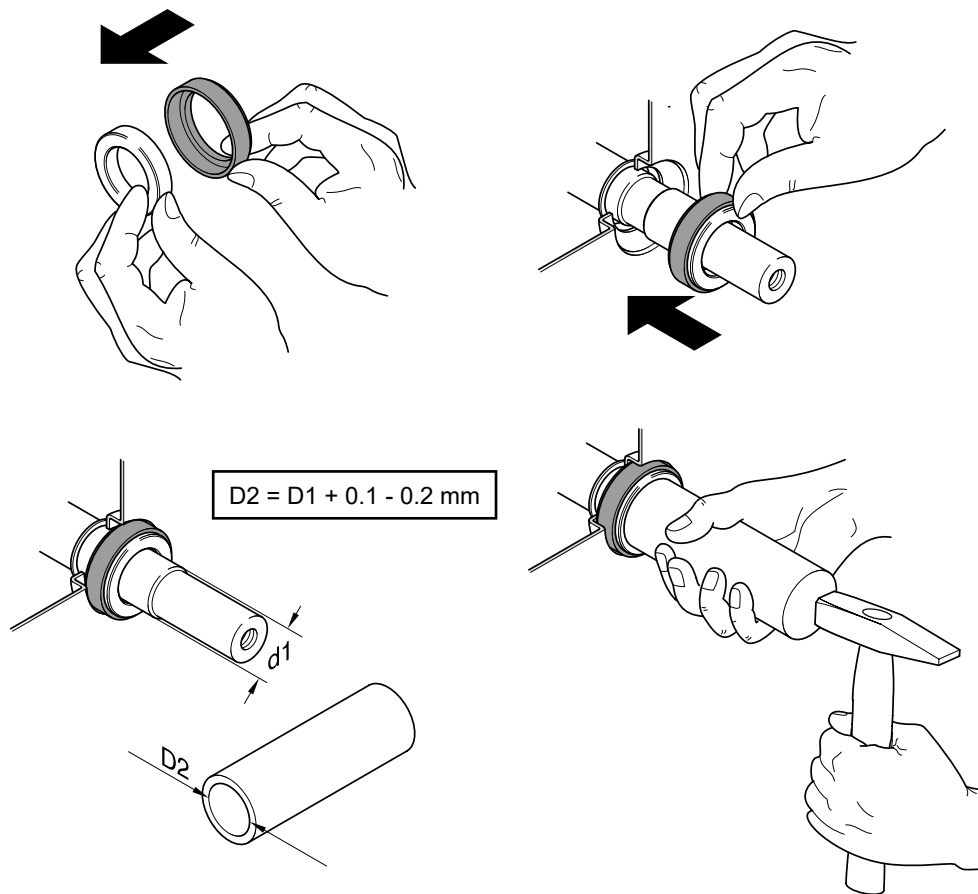

Figure 13 Fitting of the fixed ring
In particular take special care when fitting and pressing home the fixed ring that it is not tilted. When pressing it home over the seal surface use a suitably dimensioned plastic tube (see Figure 13) with a perfectly flat surface. The inner diameter should be such that it slides closely over the shaft end. This will prevent tilting and damage to the sliding surfaces!
**NOTE** *While the illustration Figure 13 shows the fitting of the profile seal, in most cases it is already fitted to the fixed ring.*